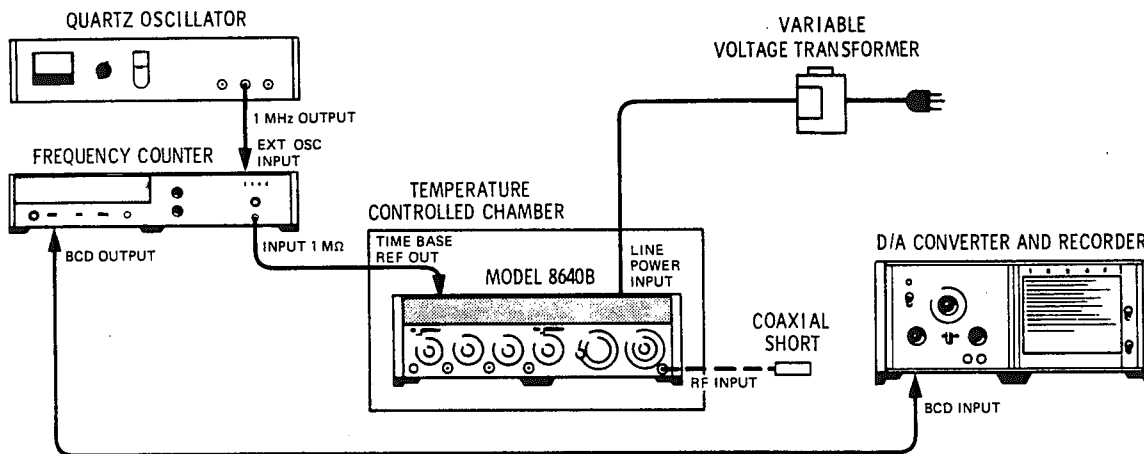

Figure 4-30. Internal Reference Drift Rate (Stability) Test Setup
1. Connect equipment as shown in Figure 4-30 after setting Signal Generator's controls as follows: